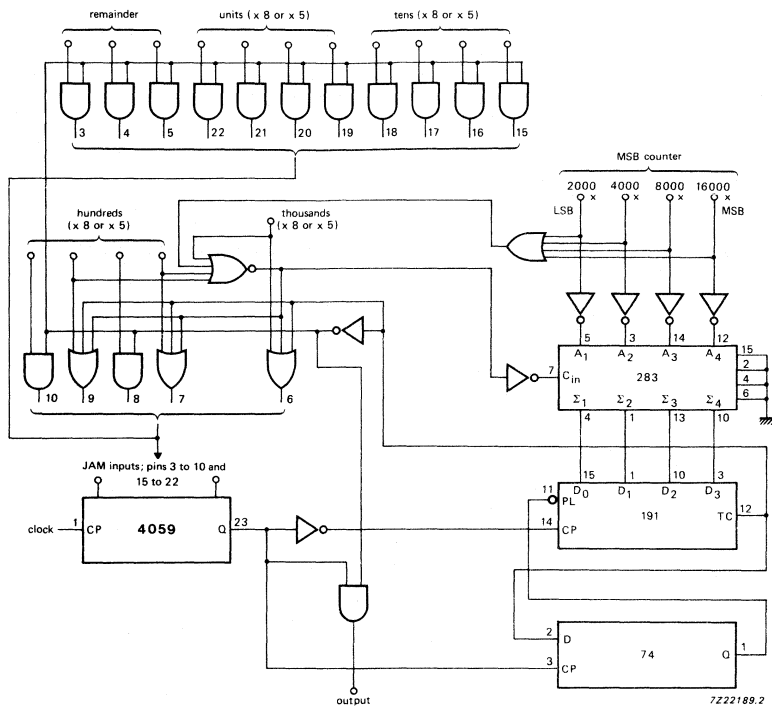

Fig. 11 BCD switch compatible divide-by-n system suitable for divide-by-5 and divide-by-8 mode. Divides by any number from 3 to 256 000.
Figure 11 shows a BCD switch compatible arrangement suitable for divide-by-5 and divide-by-8 modes, which can be adapted (with minimal changes) to the other divide-by-modes. In order to be able to preset to any number from 3 to 256 000, while preserving the BCD switch compatible character of the JAM inputs, a rather complex cascading scheme is necessary because the "4059" can never be preset to count less than 3. Logic circuitry is required to detect a condition
The general circuit in Fig. 11 can be simplified considerably if the range of the cascaded counters do not start at a very low value.
**Note to Fig. 11**